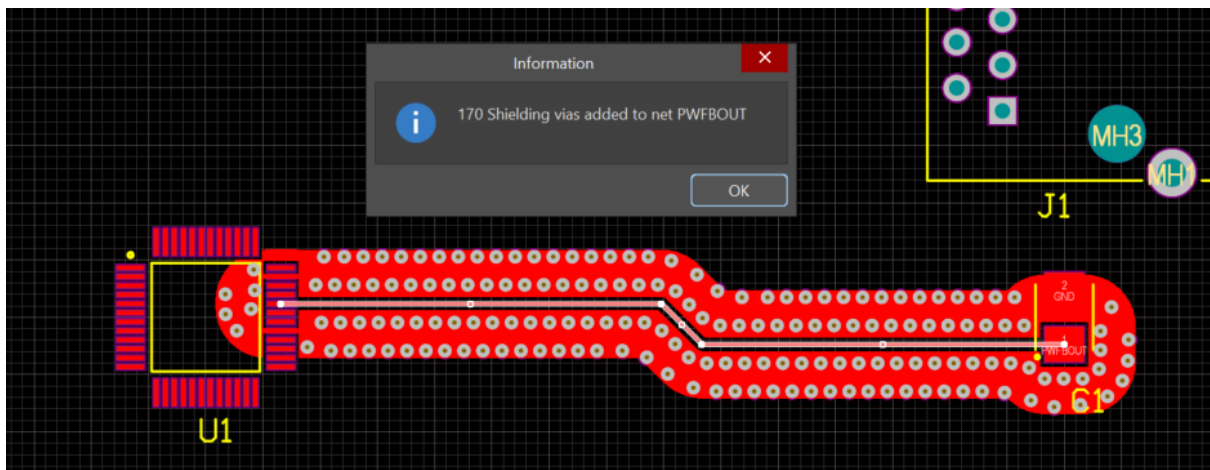

Figure 9. Via Stitching added
25. The via shielding will be added to that net as shown in Figure 9.